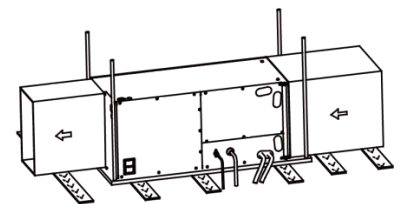

Fig. 2.2
- If air handler is installed as shown in Fig. 2.2, make sure there is enough space for care and maintenance, and that the height between the air handler and ground is above 8 ft (2500 mm). Also make sure the air handler is not accessible to the general public.